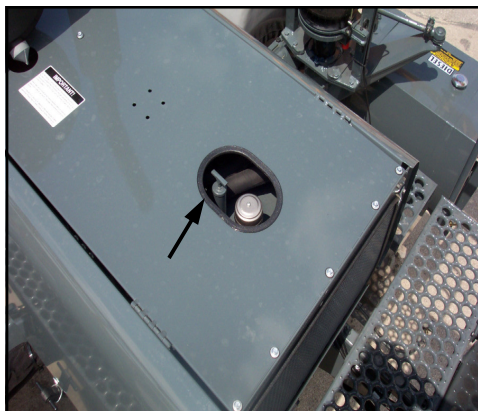

FIG 56-2
**OIL LEVEL** - Check the hydraulic oil level in the reservoir daily (fig. 56-2). Add just enough fluid so the level reaches the bottom tip of the dipstick. Always check the hydraulic oil level when it is cool. Hydraulic oil will expand when heated in a system and measuring the reservoir by these levels allows for expansion.